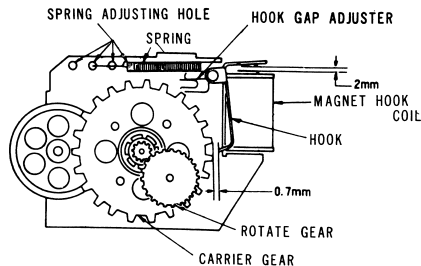

Fig. 3-7
(2) Adjusting the magnet hook
- ① Adjust the gap between the hook and the magnet with the hook gap adjuster to make it 2mm.
- ② Adjust the gap between the carrier gear and the end of magnet by bending the hook to make it 0.7mm.
- ③ Check if the magnet hook operates at 10.5V and if it does not adjust the tension of the spring by changing the position of spring end. (See Fig. 3-7)